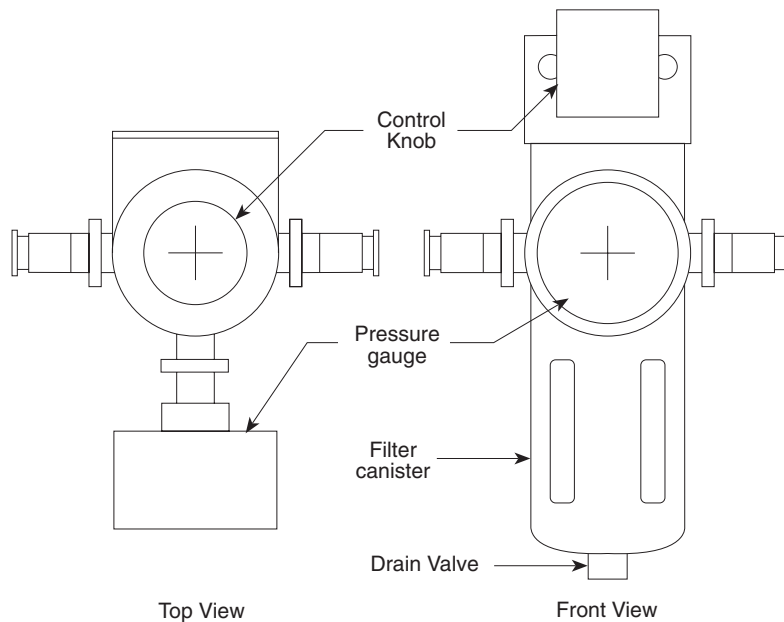
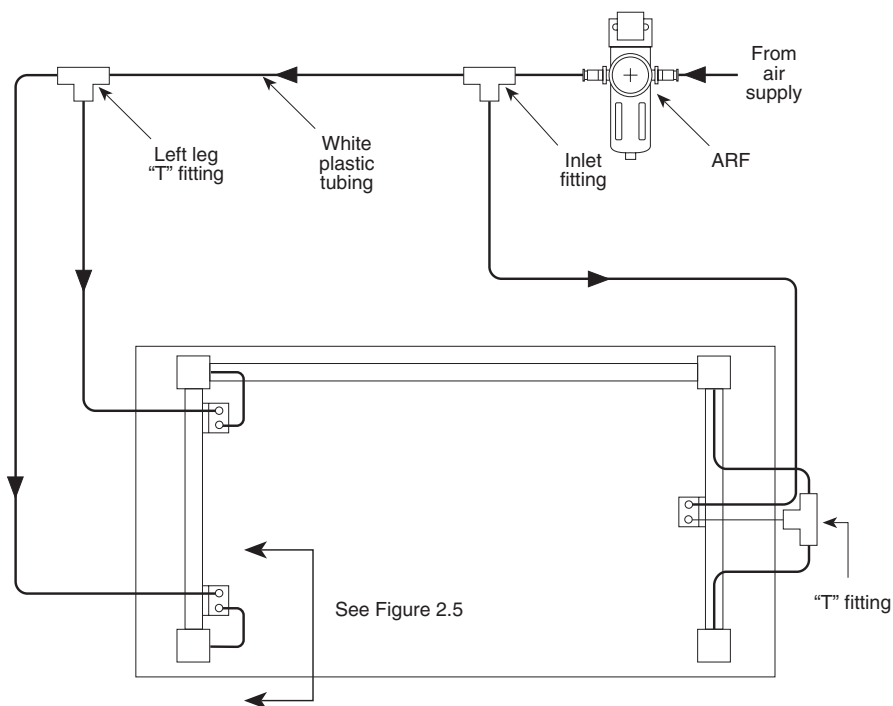

Figure 2.3 — ARF
Figure 2.4 — Air System Diagram
The IsoStation workstation is shipped with the air regulator/filter (ARF), Figure 2.3, and leveling valves installed on the leg assemblies.
- A. Using the white tubing provided connect the inlet fitting on the right leg assembly valve (single valve) to the “T” fitting on the left leg assembly (see Figure 2.4). To connect the tubing to the fittings, insert and firmly press the tubing into the fitting. (Warning: Do not attempt to disconnect the tubing once the system is pressurized.) Route the tubing along the rear brace and secure it in position using the stick-on tubing clips.
Install the leveling valves and ARF as shown in Figures 2.3, and 2.6. Plumb the air system with the tubing provided per Figure 2.4. Secure the tubing in place along the IsoStation frame using the stick-on tubing clips provided. Clean the frame with alcohol before attaching clips.